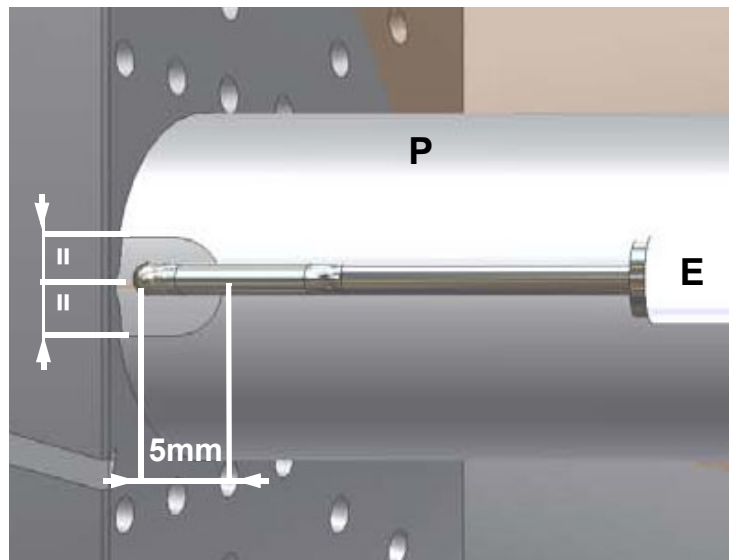

Fig. 4
2. Slide VD forward up to the stop, fig. 4.